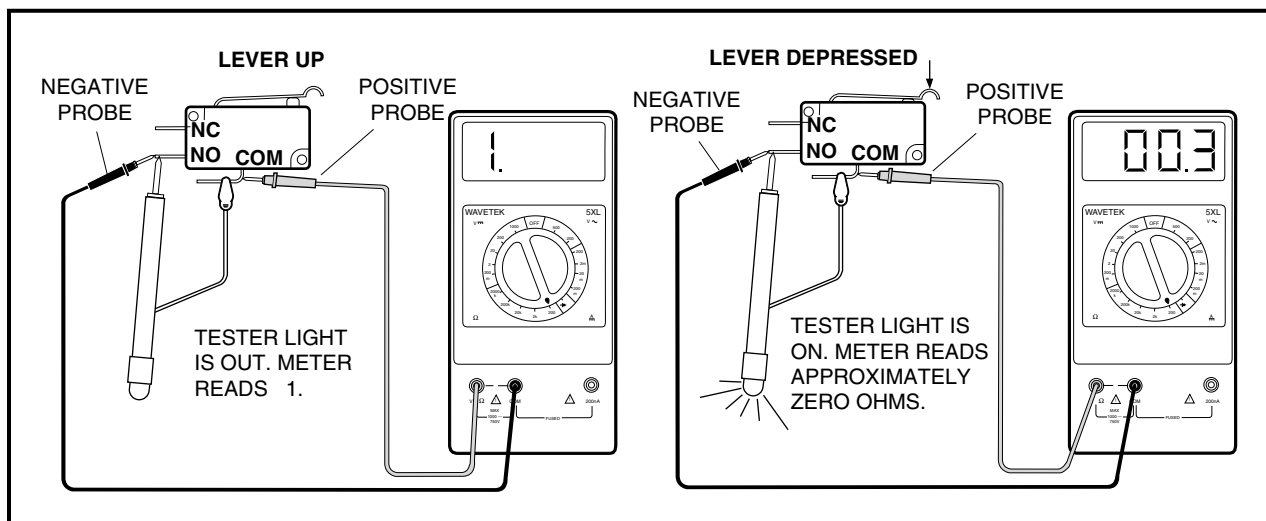

Figure 11b-37 Test Neutral Lockout Switch
3. Disconnect the wires from all the terminals on the starter/generator. Then place the black (-) probe of a multimeter, set to 200 Ω (ohms), on the starter/generator housing (scratch through the finish to ensure a good ground). While holding the black probe against the housing, place the red (+) probe (one at a time) on the A1, A2, F1, F2 and DF terminals respectively (**Figure 11b-38, Page 11b-32**). The readings should be no continuity. If the readings are incorrect, the starter/generator will need to be removed from the vehicle and disassembled by a qualified technician. **See Starter/Generator Removal, Section 12b, Page 12b-2.**